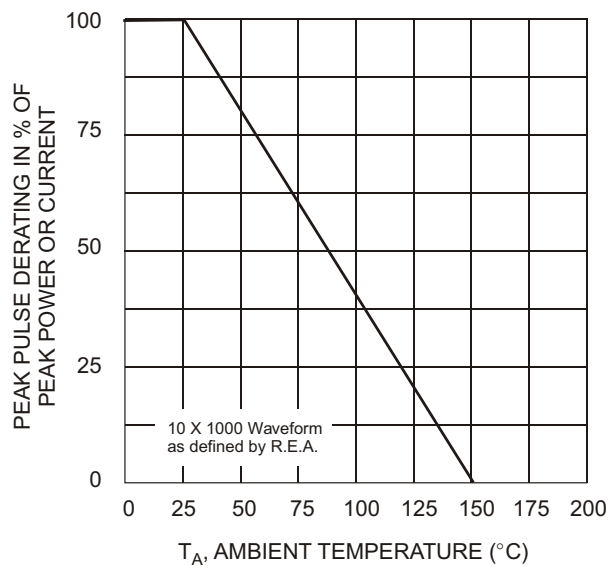
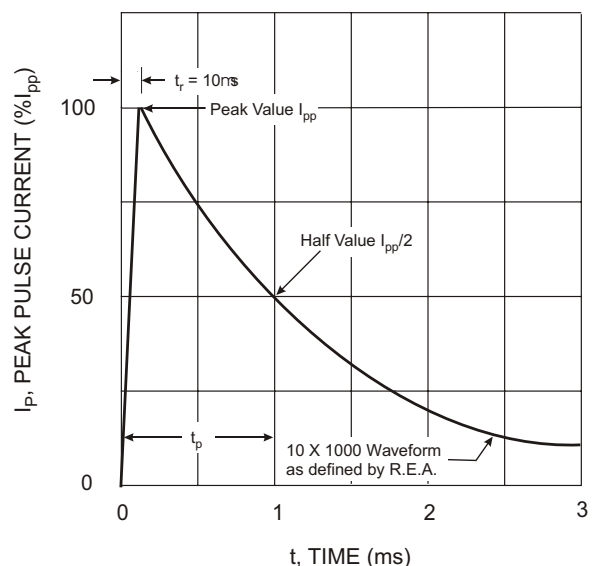

Fig. 1 Pulse Derating Curve
Fig. 2 Pulse Waveform
2. Non-repetition current pulse per Figure 2 and derate above TA = 25°C per Figure 1.